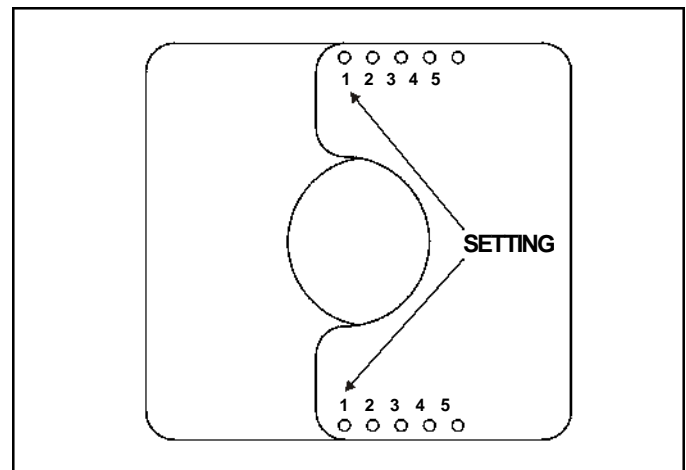

Figure 4.8 Setting the Exhaust Restrictor for MEZZO-1300-AU, MEZZO-1300ST-AU, MEZZO-1600-AU
2. The setting for MEZZO-1300-AU, MEZZO-1300ST-AU and MEZZO-1600-AU is 1-1. Align the holes marked "1" on the numbered exhaust restrictor piece with the hole on the other exhaust restrictor piece. See Figure 4.8. Center the exhaust restrictor on the vent and secure in place with two 1/2 in. (13 mm) self-piercing screws.